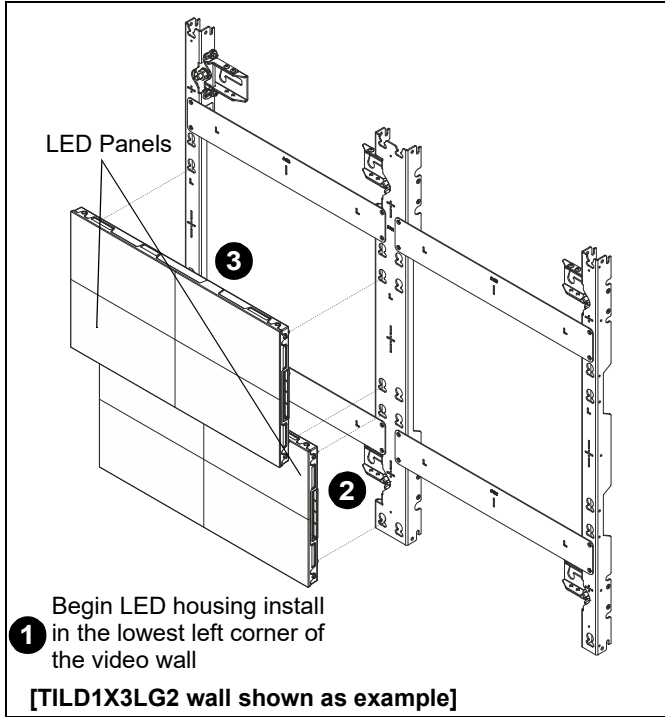

Figure 21
1. Install the first LED housing in the lowest left-hand corner of the video wall by aligning mounting buttons on the housing with the mounting holes on the wall mount. (See Figure 21)